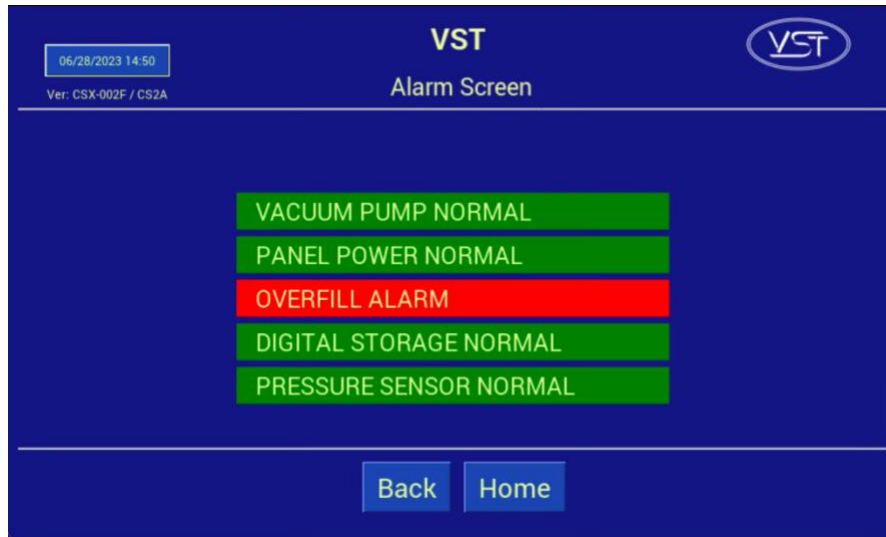

Figure 8-22: Alarm Screen with Active Alarm
- A VST Control Panel PLC Overfill Alarm is Active when the Fuel Management System Overfill Alarm is Active. **See Figure 8-22.**